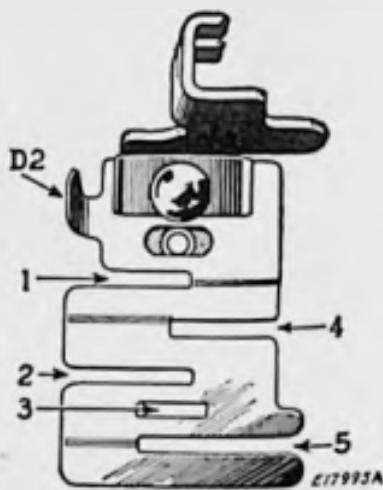

FIG. 51
The distance from the line of stitching to the edge of the material in the slots is regulated by moving the lug **D2**, **Fig. 51** to the right or left.
- (1) Insert one of the laces in slot 1 of the edge-stitcher and the other in slot 4, **Fig. 51**.
- (2) Adjust the lug **D2** until the edges to be joined are caught by the stitching.
- (3) Slightly overlap the edges of the lace while stitching to keep them against the ends of the slots.
- (4) Loosen both thread tensions to avoid puckering of fine lace.
- (1) Fold the edge of the material to which the lace or ribbon is to be sewn and insert it in the slot 1, Fig. 51 of the edge-stitcher.
- (2) Insert the lace or ribbon in the slot 4 of the edge-stitcher and proceed to sew.
- (3) Cut away the surplus folded material close to the stitching.
(1) Cut the piping bias and twice the width of the slot 3 so that it can be folded once.
(2) Insert the piping with its folded edge to the left in slot 3 and the edge to be piped in slot 4, Fig. 51.
(1) Place the garment under the edge-stitcher and the tape in slot 1 or 4, Fig. 51.
- (1) A wide hem may be stitched evenly on sheets, pillow slips, etc., with the edge-stitcher after the hem has been measured and the edge turned.
- (2) Insert the edge in slot 5, Fig. 51, and adjust the lug D2 to stitch as close to the edge as desired.
- (1) To make a uniform width French seam, insert the two edges to be joined, wrong sides together, in slot 1 or 2, Fig. 51 and stitch close to the edge.
- (2) Fold both right sides together and insert the back of the seam in the slot 1 and stitch, allowing just enough margin to conceal the raw edges.
- (1) Fold and crease the material for the desired width of tuck.
- (2) For succeeding tucks, fold the material the desired distance from the previous tuck, running the fold lengthwise over a straight edge, then crease the folds.
- (3) Insert the creased folds in the slot 1, Fig. 51 and adjust the edge-stitcher to the right or left for the desired width of tuck. Use a light tension, short stitch and fine thread and needle.